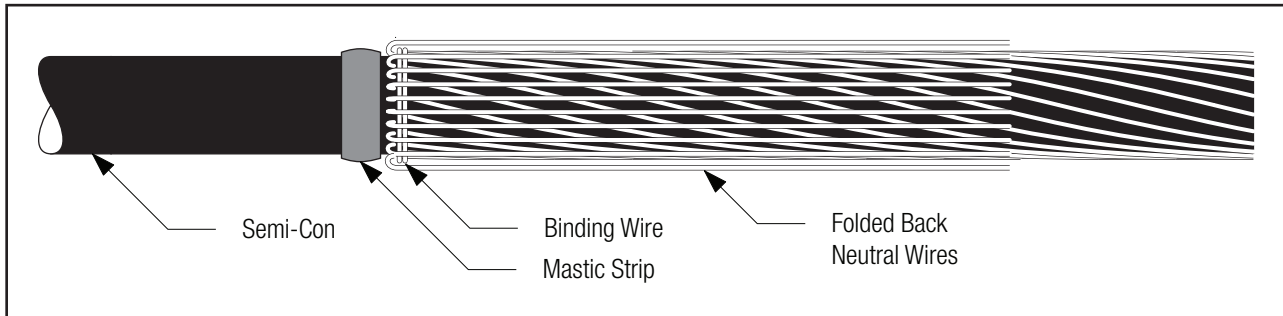

Figure 27
8.1.1 Apply a mastic strip around the semi-con jacket of each cable at the location where neutral wires are bent back (*Figure 27*).